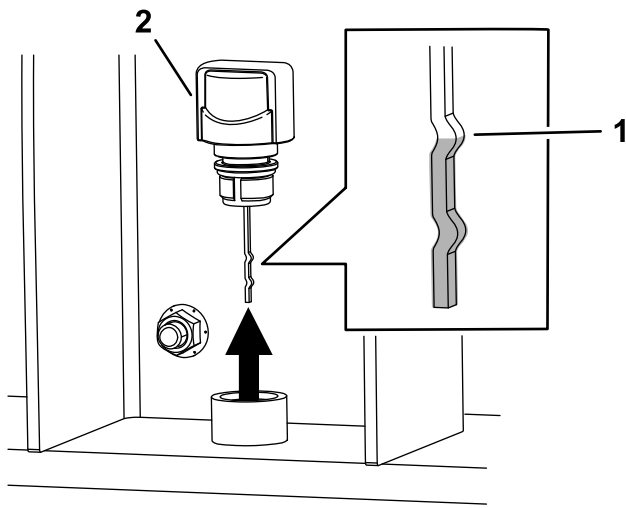

Figure 33
4. Clean around the breather cap (Figure 33).
5. Remove the breather cap (Figure 33).
7. Remove the dipstick and verify that the fluid is at the upper notch (Figure 33). Install the breather cap.
Note: The fluid level should be at the upper notch on the dipstick on the breather cap (Figure 33)